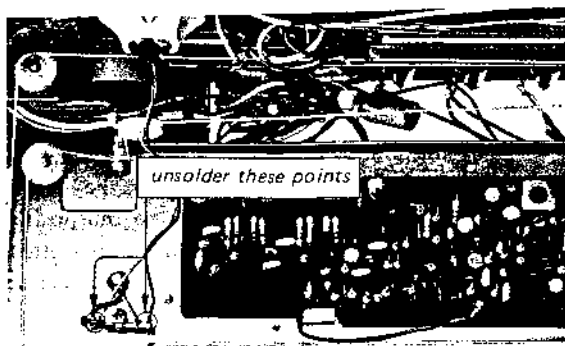

Fig. 2-11. Stereo lamp replacement
2. Unsolder the defective lamp leads from the connecting terminals, as shown in Fig. 2-11, and then install a new one.